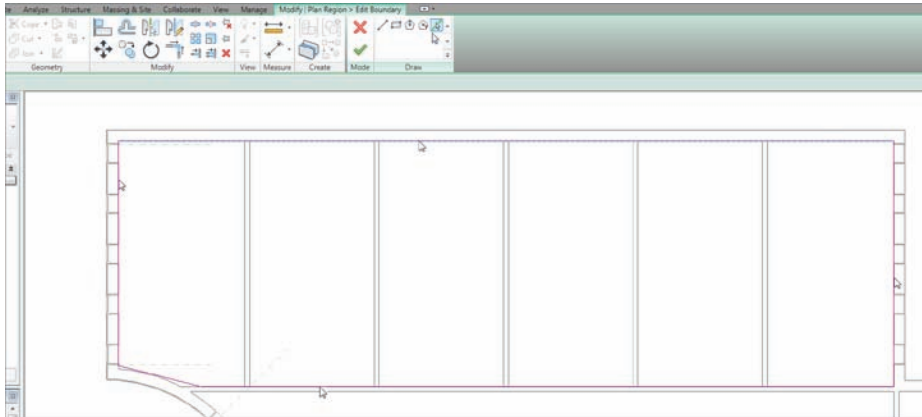

FIGURE 9.15 Defining the limits of the plan region by drawing a rectangle around a specific area
4. On the Draw panel, click the Pick Lines button, as shown at the top of Figure 9.15.
5. Pick the inside, finished face of the exterior walls around the north portion of the west wing, as shown in Figure 9.15.
- For the lower-left corner, draw a straight line, as shown in Figure 9.15. (Unfortunately you can't have radial perimeter lines in a plan region.)